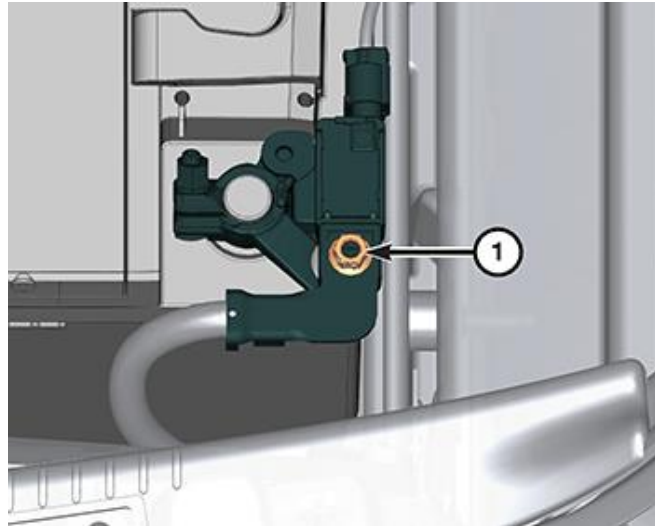

Figure 3 – Negative Cable Eyelet Nut
3. Remove the M8 hex nut (1) securing the battery negative cable eyelet to the IBS (Figure 3).
- d. Install the M8 hex nut (1) to the IBS and tighten the nut to 15 N·m (11 ft. lbs.) (Figure 3).